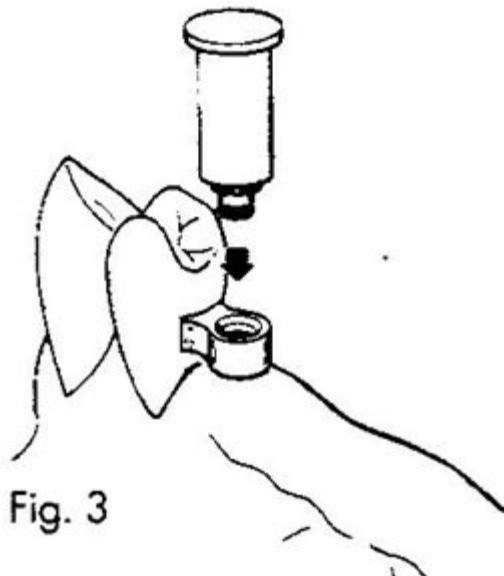

Fig. 3
3. Check the fit of the ZAAG Female using the Parallel Post as a handle (**FIG 3**). The top rim of the ZAAG Female should seat on top of the surrounding cast metal.